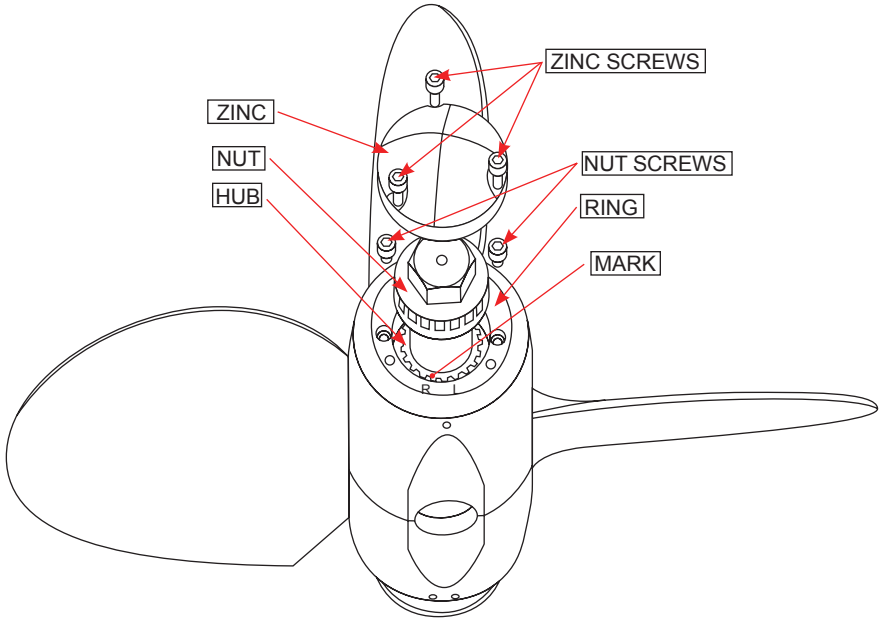

Fig.6
With the MAX PROP EASY® it is also possible to change the rotation, e.g. if you change the engine, or if there was a mistake when ordering the prop. If you have doubts about the engine rotation, it can be determined looking forward from the stern of the boat. With the engine in forward position a clockwise rotation of the propeller means it is right handed (R), and a counter-clockwise rotation is left handed (L). In order to change the rotation of the MAX PROP EASY®, from a right hand rotation to a left hand rotation or vice versa do as follows, referring to fig.6
6. If you place the zinc bearing ring in its seat again, matching the "L" tooth with the hub reference mark, you have a left hand rotating propeller, on the contrary, with the "R" tooth you have a right rotating propeller as in fig.6